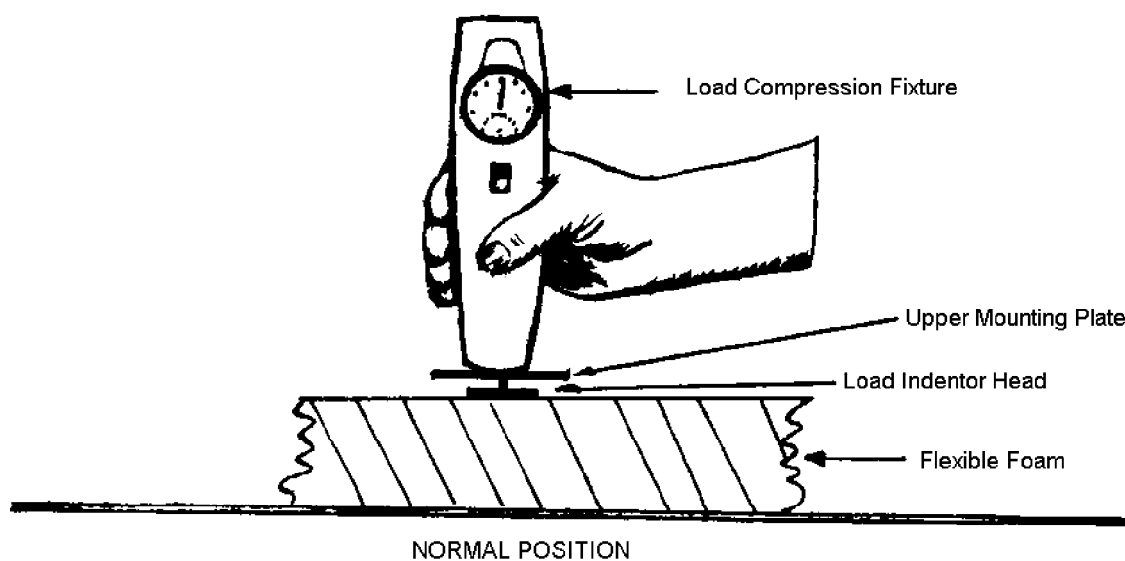

Figure 1
The upper mounting plate shown in Figures 1 and 4 is secured to the bottom of the load compression fixture.
3. Bring the load indentor head into contact with the surface of the part in the test area as designated by the engineering drawing. (See Figure 1 –Normal Position).